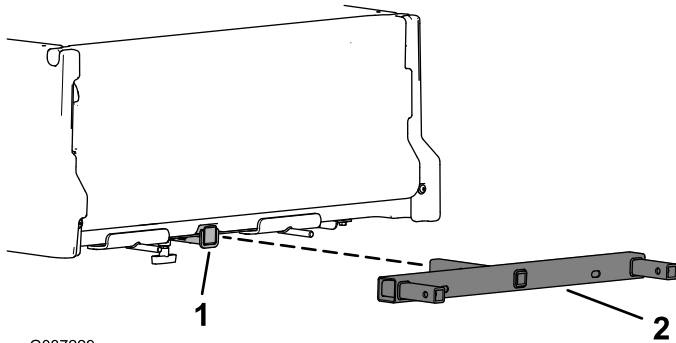

Figure 6
6. Insert the trash-can frame into the machine receiver tube (Figure 6).
Important: Ensure that the slots for the outrigger posts are aligned as shown in Figure 6.